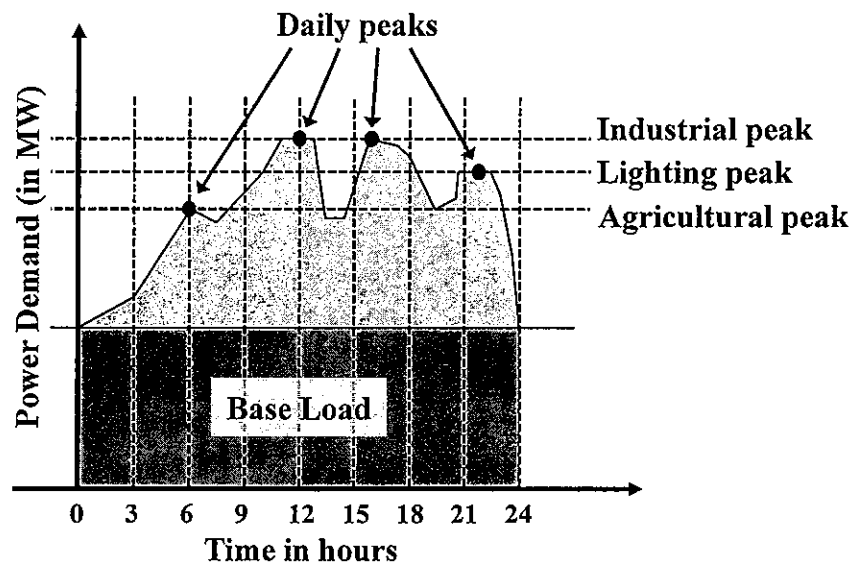

Figure Q4(a)
- (b) Figure Q4(b) illustrates the one-line diagram of a power system. The ratings of the various components in the power system are listed as follows: